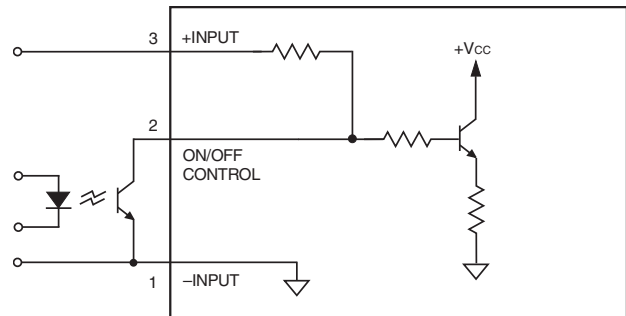

Figure 9. Driving the Negative Polarity On/Off Control Pin
**"N" suffix:** Optional Negative-polarity devices are off when pin 2 is left open (or pulled high, applying +3.5V to +13V), and on when pin 2 is pulled low (0 to 0.8V) with respect to -Input as shown in Figure 9.